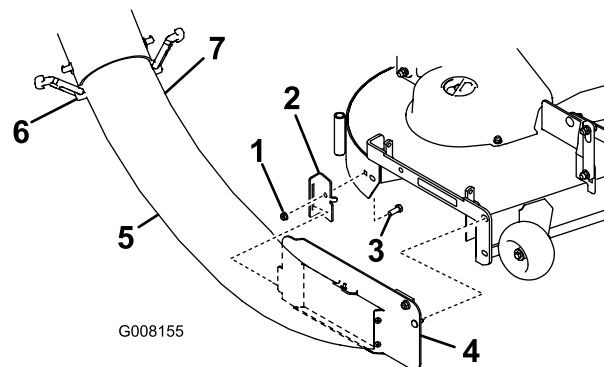

Figure 9
2. Install the boot mount bracket onto the deck frame using the carriage bolt (5/16 x 3/4 inch) and lock nut (5/16 inch) as shown in Figure 9. The bracket may stay on when converting to side discharge mode.
3. Insert the tab on the lower tube assembly into the boot mount bracket as shown in Figure 9.
6. Slide the upper tube onto the lower tube and fasten the rubber latches (Figure 9).
3. Remove the bagger mount bracket from the deck and retain all hardware see Figure 9.